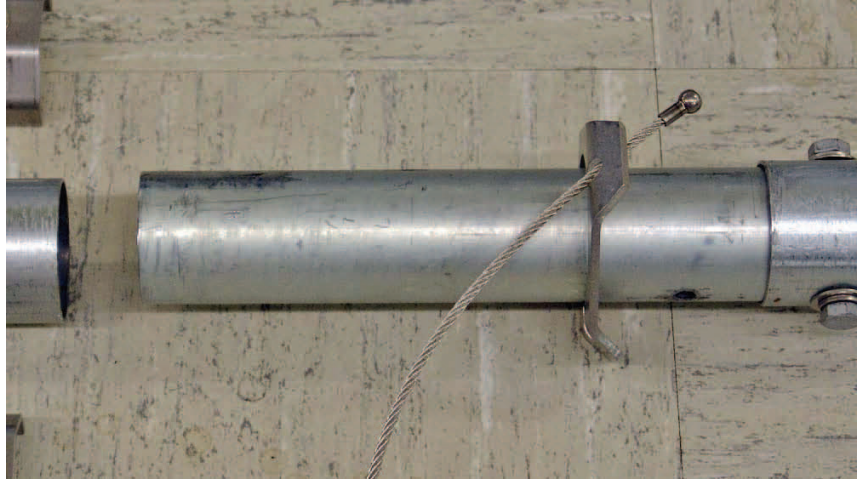

FIGURE 3-11. Guy cable inserted into guy ring
Step 9: Place ball end of each guy cable into its slot in the guy ring and place guy ring onto coupler of Section 3 (see FIGURE 3-11).